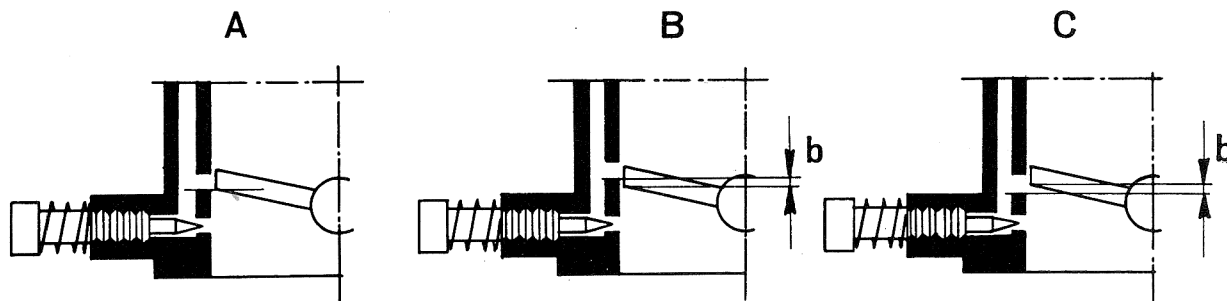
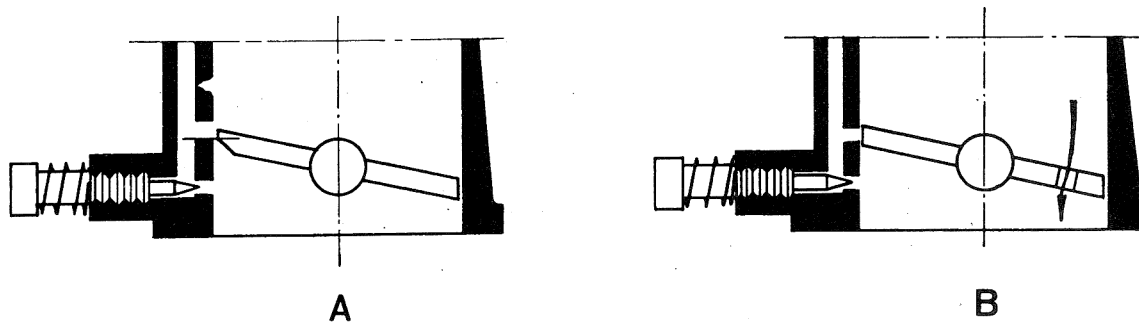

FIG. 39
FIG. 40
Sometimes it may prove necessary to re-locate the transition orifice with respect to the throttle valve edge, for instance, when a carburettor servicing includes polishing of the barrel and throttle valve replacement. Such condition is illustrated in **Figs. 39** and **40**. In **Fig. 39-A** the transition orifice is blanked out by the throttle plate edge set in idle speed position as it should be for correct operation.
In **Fig. 39-B** the transition orifice results offset upwards (upstream of throttle) and though idle speed operation is quite smooth "flat spots" will be experienced as soon as the throttle begins to open, owing to an excessively weak mixture. In fact, in this case the orifice is acted upon too late by the depression existing beneath the throttle plate.
In **Fig. 39-C** the transition orifice is offset downwards (downstream of throttle) and idle speed operation is quite "rough" owing to an excessively rich mixture even with mixture adjusting screw tightened in fully (closed), as the supply from the transition orifice is too generous. The remedial actions for such conditions are:
- case of **Fig. 39-B** - by trial and error cut a chamfer in throttle plate edge as shown in **Fig. 40-A**.
- case of **Fig. 39-C** - drill a hole in throttle plate, on the side opposite the transition orifice, so that part of the air drawn in by the engine will flow through, thus allowing the throttle valve to remain closed, as shown in **Fig. 40-B**. Initially, this hole should have a diameter of 0.7 mm and may be increased gradually up to 1.2 - 1.5 mm, as required, but **never** to a diameter that would cause the